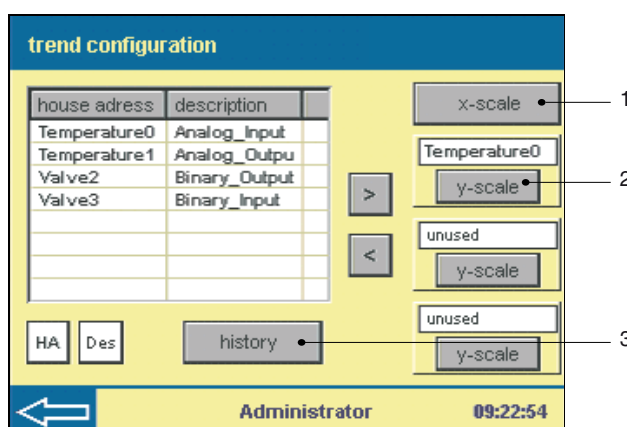

Fig. 30 HDB Configuration
Press the historical data  button in the data-point list to open a window with a list of all data points (Fig. 30). This is the 'interactive' configuration for the graphic view of historical data for up to three data points.
- ▶ Press  to return to HDB configuration (Fig. 30), without making a change.
5. Press  to return to the HDB configuration (Fig. 30), without making a change.